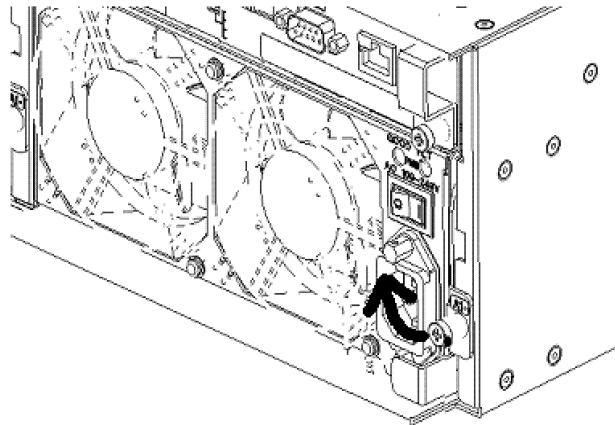

Figure 3-19. Releasing the Power Supply Ejector.
5. Put your finger on the protrusion of the ejector, and pull the ejector towards you. See Figure 3-19.